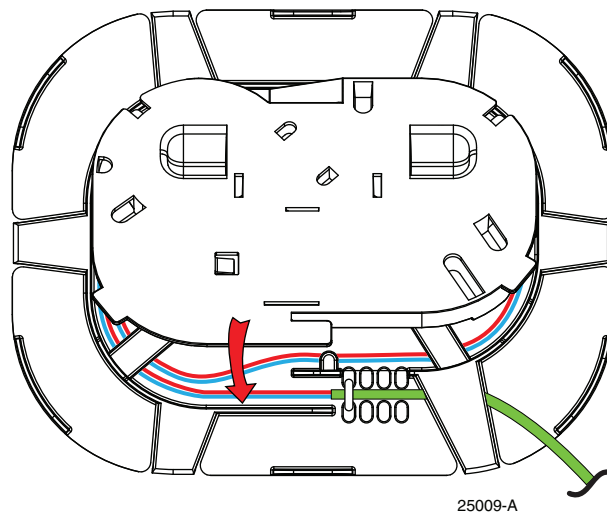

Figure 33. Installing Cover on Splice Tray
7. When all of the fiber is wound into the central area of the splice tray, snap the cover onto the splice tray as shown in Figure 33.